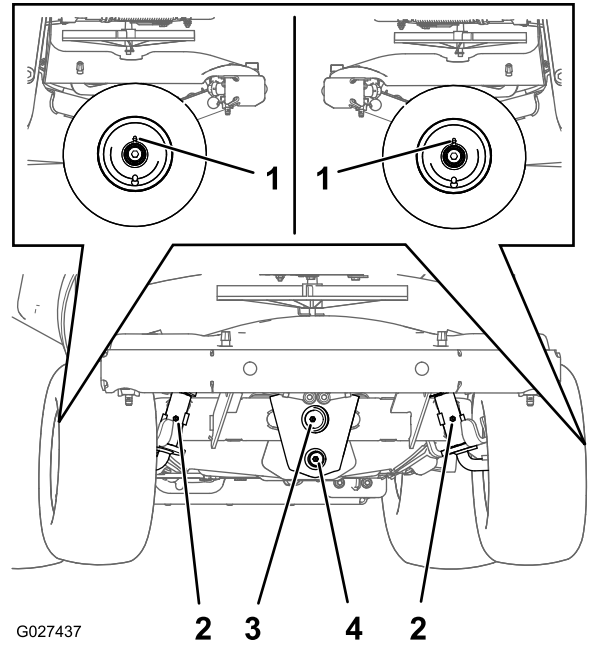

Figure 70
2. Wipe the grease fittings clean with a rag (Figure 70).
3. Connect a grease gun to the fittings (Figure 70).